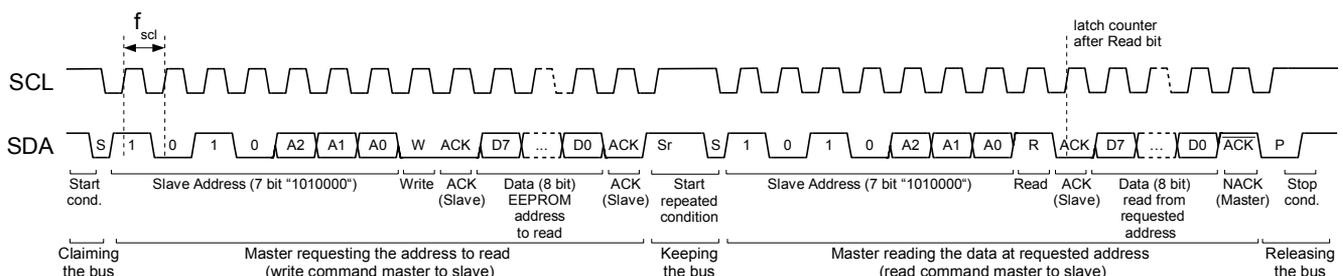

Figure 15: iC-PVL combined write/read command reading one slave address
If no EEPROM is available or desired in the application, programming the iC-PVL by a microcontroller (MCU) is possible. As described in the subsequent chapter, the I2C slave mode allows direct read/write access to internal configuration and counter. Alternatively, the MCU may emulate an EEPROM (i.e. an I2C slave), since iC-PVL is acting as a bus master by default. At startup, after a short high pulse at pin PRE, the iC-PVL requests addresses 0x00 to 0x0C from the connected I2C slave. This is done in a combined write/read command as shown in Figure 15, repeating 13 times.
The I2C communication protocol described in Figure 15 may be used for read and write register access.
**Note:** For a consistent position information, it is necessary to read all these position registers in one burst command. The counter and synchronization bits are latched after each read addressing (i.e. read/not write bit = high). At burst command, the addressing for read is done only once, for the first address 0x07. The effective clock edge is marked in Figure 15. If the seven registers are read in seven separate read instructions, the transmitted position may change during readout time and the transmitted position will be inconsistent.